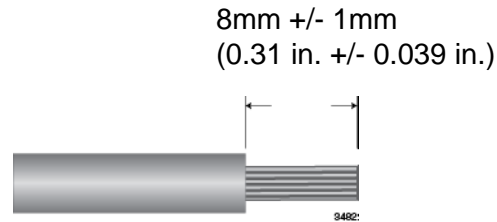

Figure 55. Stripped Wire
4. With a 14-gauge wire-stripping tool, strip the three wires in the tray cable coming from the DC input power source to  $8\text{mm} \pm 1\text{mm}$  (0.31 in.,  $\pm 0.039$  in.), as shown in Figure 55 on page 113.